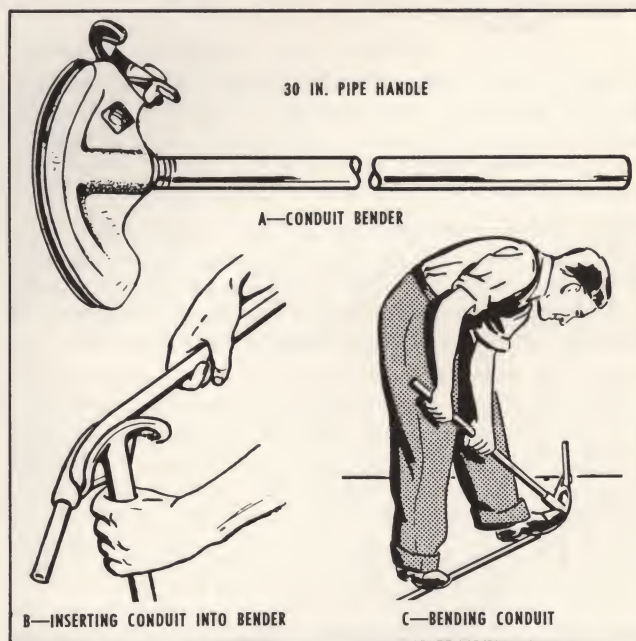

FIG. 39—USING A CONDUIT BENDER
**USING A CONDUIT BENDER.** Fig. 39-A illustrates a bending tool which provides the easiest and most convenient way to bend conduit. Make bends gradual, taking care not to kink or collapse the conduit, so wires can be pulled through easily. No more than four quarter bends or the equivalent should be made on any conduit run, since the fewer the bends, the easier it is to pull the wires through. Bends are most easily made by placing the conduit on the floor, as shown in Fig. 39-C.